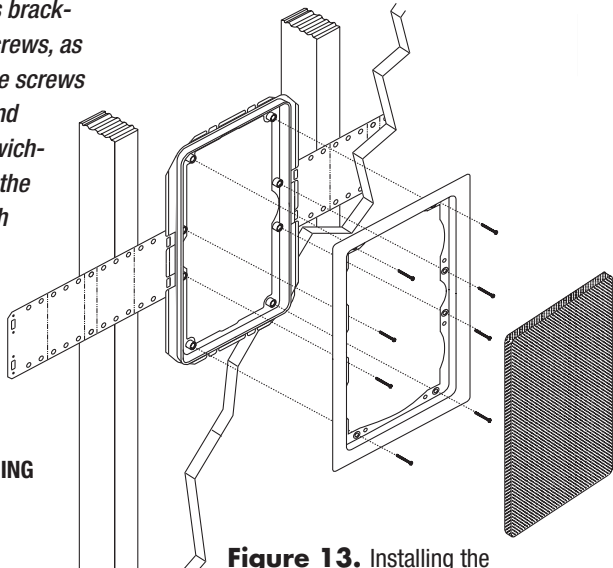

Figure 13. Installing the frame into a mounting bracket.
5. *If the coat hanger moves freely in a complete circle, hold the supplied template up to the wall or ceiling and level it in the horizontal or vertical position. Use a pencil to outline the cutout on the surface and then drill the four corner holes with a 1/4-inch bit (see **Figure 13** on page 17).*
3. *Attach each frame to its bracket using the supplied screws, as shown in **Figure 13**. The screws should pull the frame and bracket together (sandwiching the drywall) so that the frame is absolutely flush with the wall surface. There should be no gaps between the wall and the frame.*